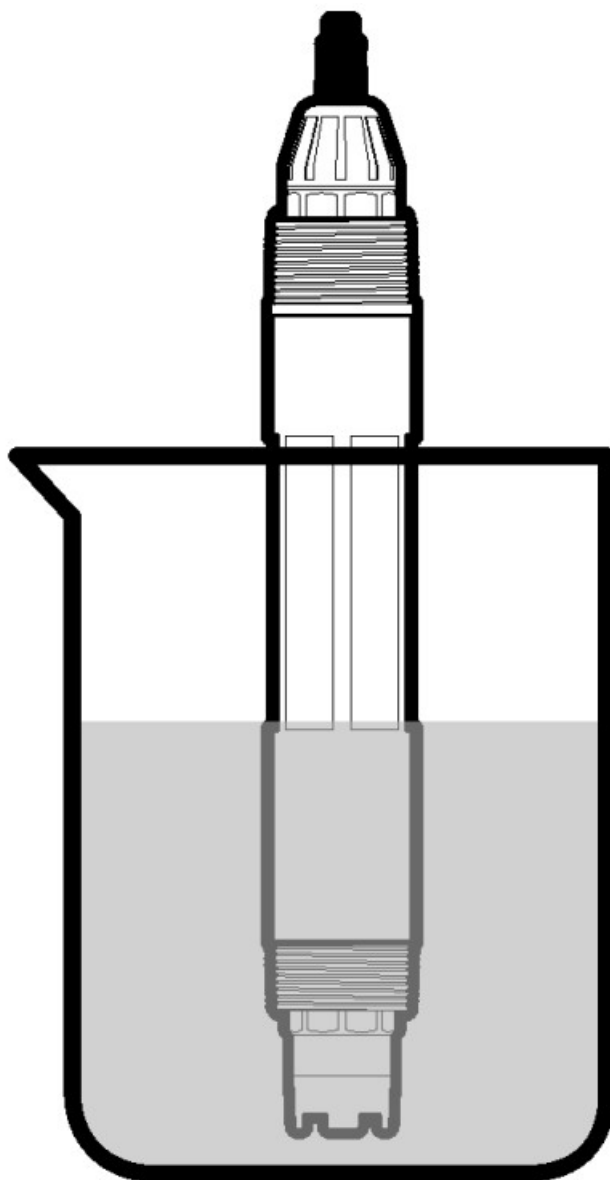

Figure 5 Sensor in reference solution
1. Put the sensor in the reference solution (a reference solution or sample of known value). Make sure that the sensor portion of the probe is fully immersed in the solution (Figure 5).